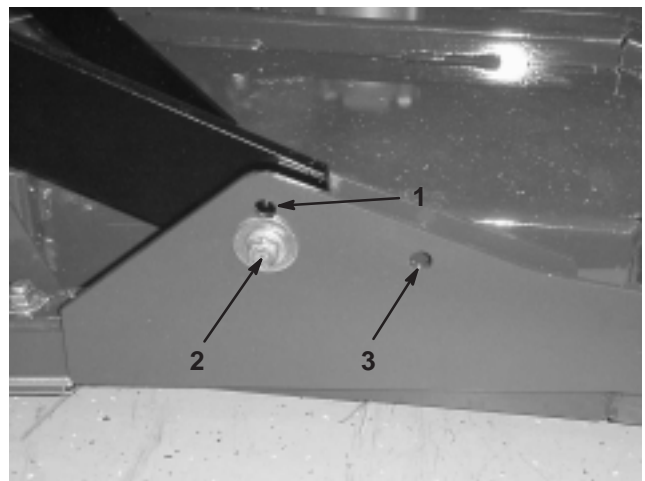

Figure 1
1. For heights of cut in the 3/4 to 3 inch range, the front carrier frames should be mounted in the lower front mounting holes (Fig. 1).
2. For heights of cut in the 2-1/2 to 4 inch range, the front carrier frames should be mounted in the upper front mounting holes (Fig. 1).
For all heights of cut, the rear cutting deck should be mounted in the rear mounting holes (Fig. 1).